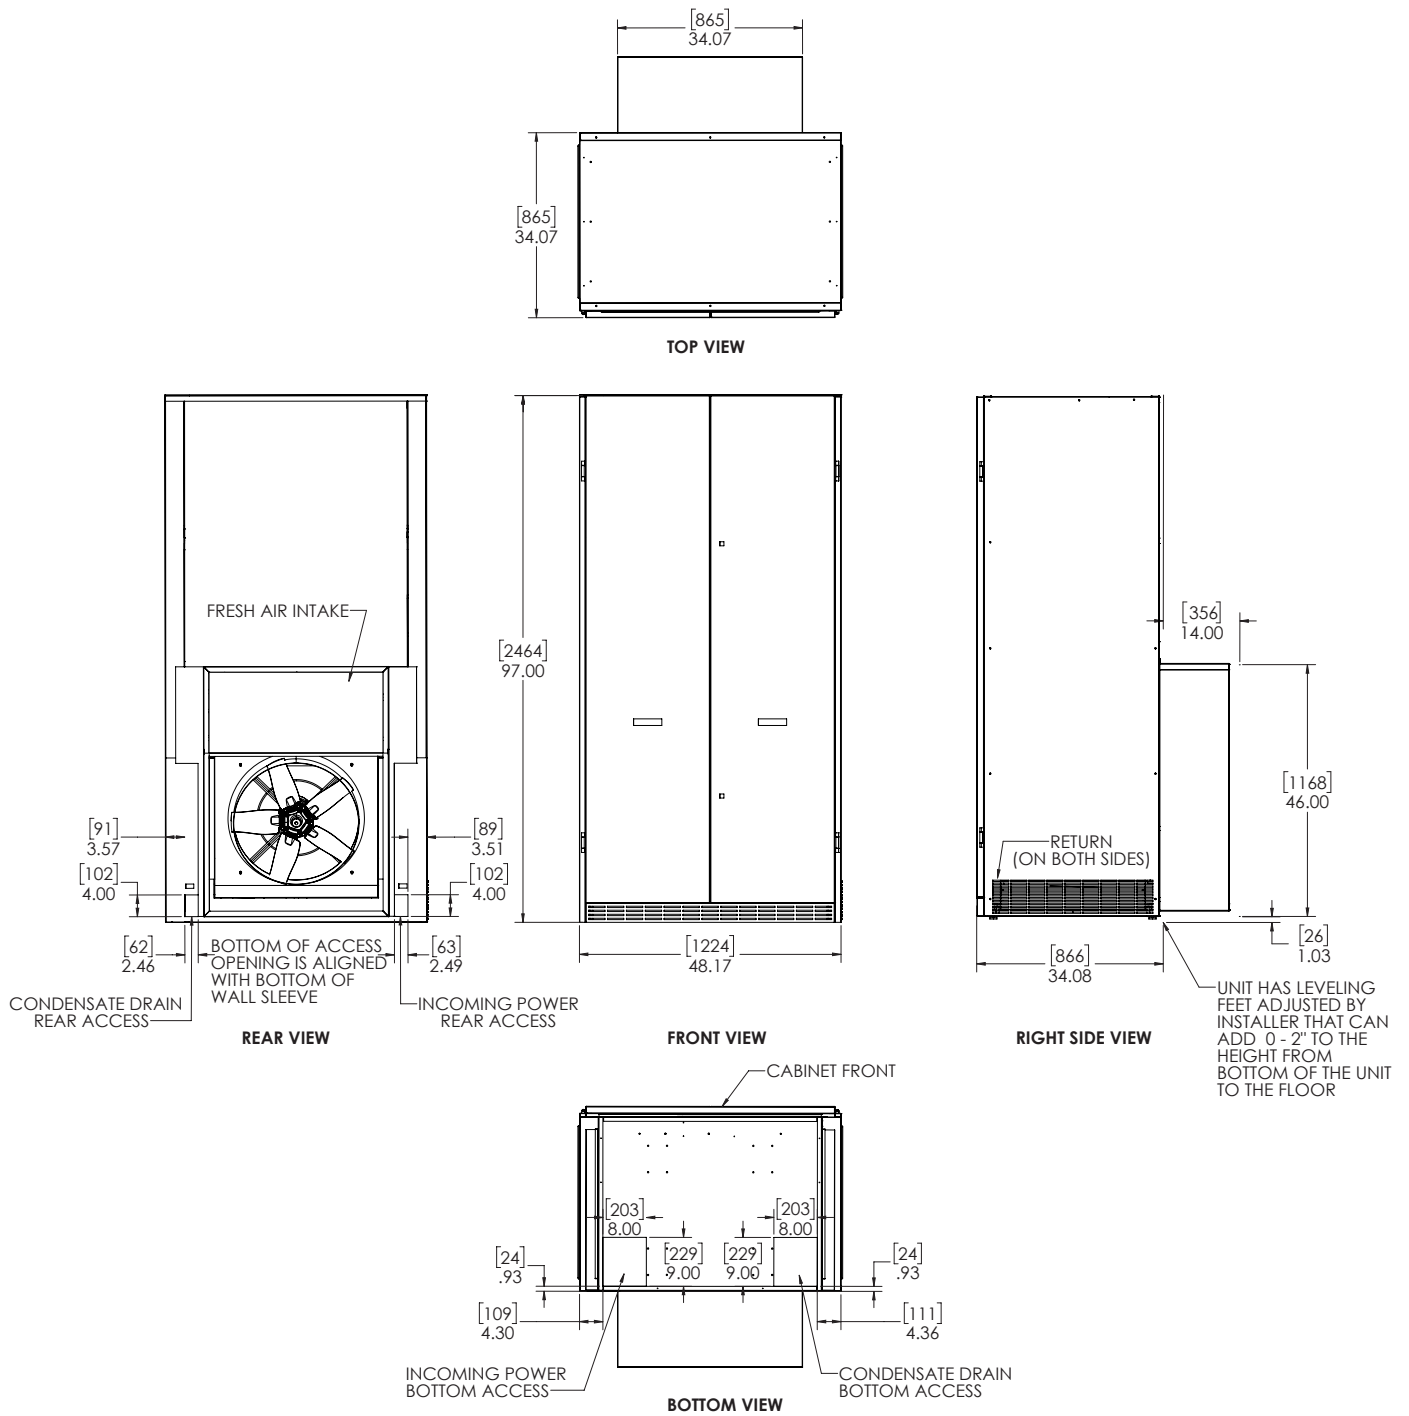

Figure 2. VDH2024/2036/2040 & VAH2030/2048/2060 Dimensional Data
A. The Scholar QR heat pump and air conditioner must be installed on an outside wall for access to outside air. The wall opening dimensions are shown in Figure 2. It must not interfere with any windows or doors to the outside. The outdoor air path must not be impeded by shrubbery or other obstructions. Do not locate the Scholar QR heat pump or air conditioner where noxious fumes or gas can be drawn in from the outdoor air and introduced in the classroom.
1. Wall opening dimensions for the Scholar QR heat pump and air conditioner are as shown in Figure 2. The unit is designed for installation through a 14 inch thickness finished wall. For finished wall depth less than 14 inches, the unit will stand off from the interior finished wall and it will be necessary to order and install trim pieces to provide a finished, color coordinated enclosure that fits flush to the interior wall.